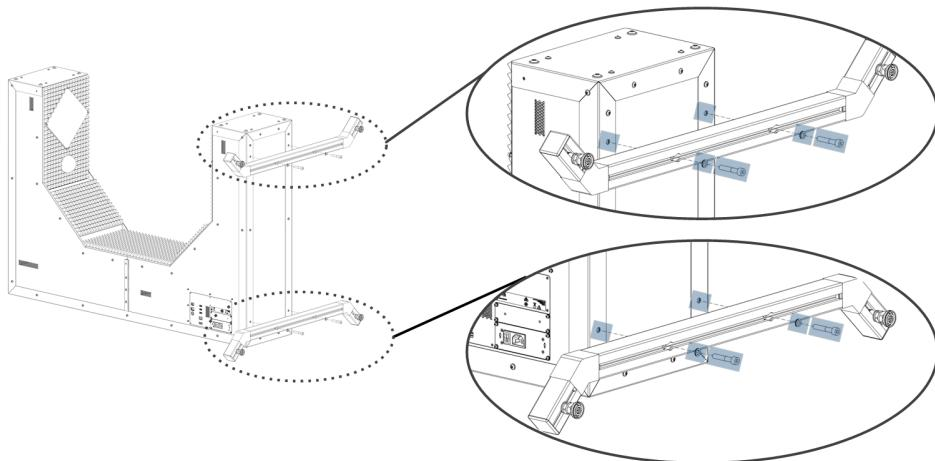

Figure 4-8: Attaching the supporting feet for upright position
- a) Screw the two feet to the mounting holes indicated in Figure 4-8 with an Allen wrench. The screws and wrench are part of the delivery (M8X45).